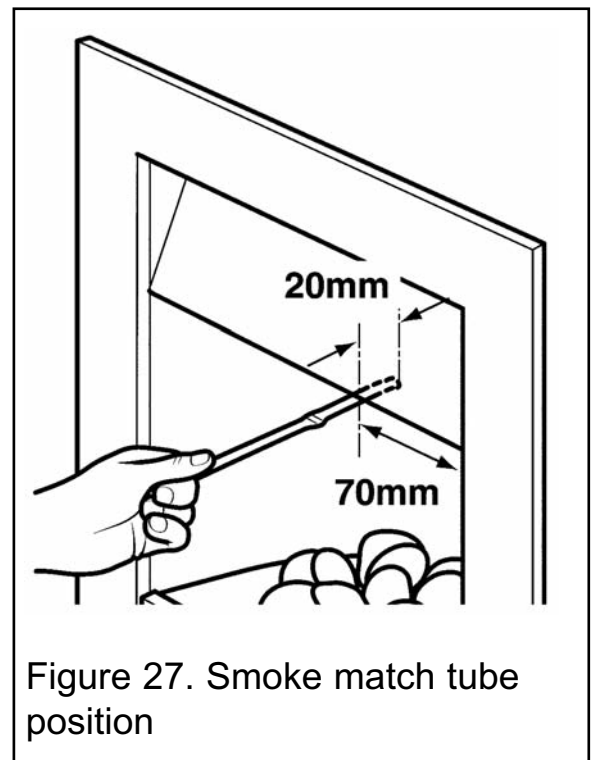

Figure 27. Smoke match tube position
4. The smoke match should be placed horizontally into the hotbox at the right hand side (See figure 27).